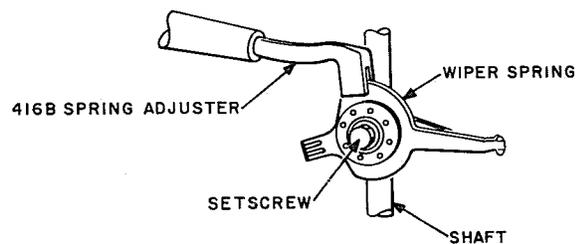

Fig. 15—Method of Adjusting Spring Tension Commutator Wiper
(1) To change the position of the commutator wiper spring, loosen the setscrew in the wiper hub with the 3-inch C screwdriver or the 555A wrench. Move the wiper upward or downward as required.
(2) To adjust the tension of the wiper spring against the commutator contacts, proceed as follows. Step the switch manually to the third or fourth rotary position. Apply the 416B spring adjuster to the upper circular part of the wiper spring, as shown in Fig. 15, and twist the tool to the right or left as required. Then apply the tool to the lower circular portion of the spring and twist the tool an equal amount to the right or left as required. Where lack of tension between the wiper spring and the commutator contacts is due to improper location of the wiper on the switch shaft, loosen the setscrew in the wiper hub with the 3-inch C screwdriver or the 555A wrench. Turn the wiper assembly on the shaft, moving the tip of the wiper spring toward the commutator to increase the tension. After making this adjustment, recheck the centering of the wiper spring on the commutator contacts.